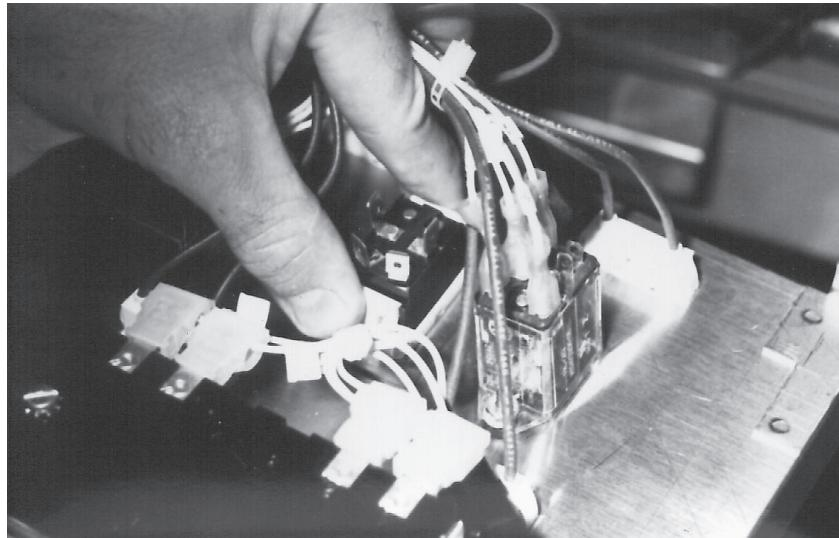

**Fig. 16**
3. Squeeze the tabs on both sides of the indicator light being replaced and pull the light out through the front of the panel. (Fig. 16)